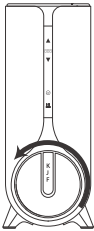

Figure 23
- (1) Close the tap and wait for 30 seconds to fully release the pressure of the system.
- (2) Remove the old filter. Remove the old filter by rotating it 90° degrees counterclockwise (**Figure 23**).